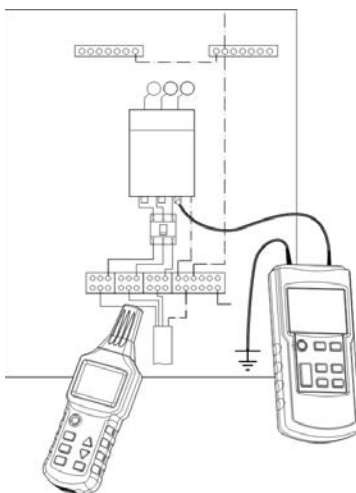

Fig.16
3. Connect the transmitter as shown in figure 16.